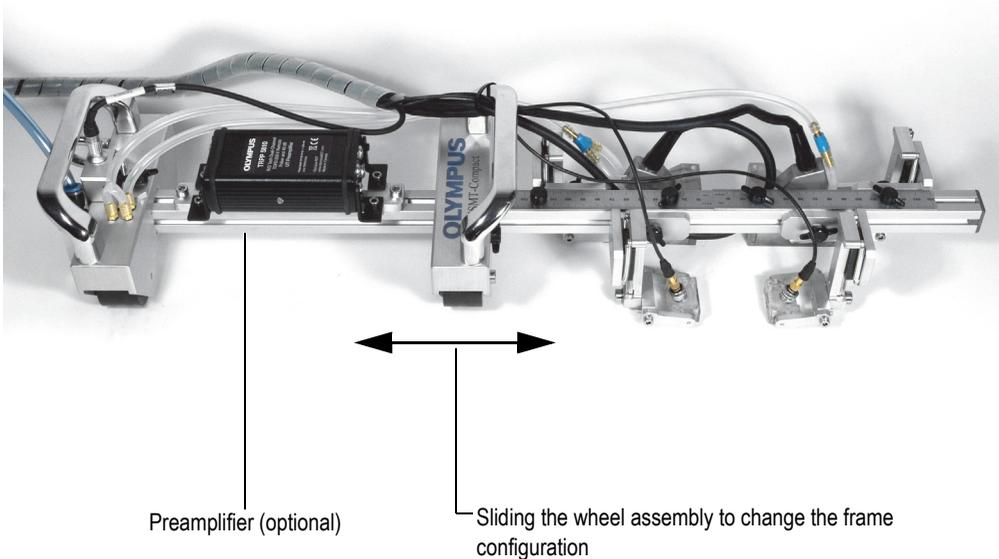

Figure 1-6 Alternative scanner configuration
When loosened, the wheel assembly slides freely on the frame, and can be temporarily removed and reinstalled in a different configuration. For example, the frame can be positioned to extend outside the limits of the wheels, which is well-suited to hard-to-reach areas, such as pipe-to-component welds (see Figure 1-6 on page 18).
If necessary, a preamplifier (often required for TOFD inspections) can be mounted on the frame. In the example shown in Figure 1-6 on page 18, an Olympus TRPP 5810 pulser/preamplifier is used. A bracket is required to mount the TRPP 5810 on HSMT scanners. This bracket is included with some TRPP 5810 packages, and can also be ordered separately (part number: HSMT-A-BRK5810 [U8779088]).
- The wheel-assembly position can be adjusted on the frame; it can be loosened and moved along the frame section. As such, the wheel assembly can be temporarily removed, and then reinstalled so that the frame and the probe extend outside the limits of the wheels, which is ideal for hard-to-reach areas, such as pipe-to-component welds (see Figure 1-6 on page 18).